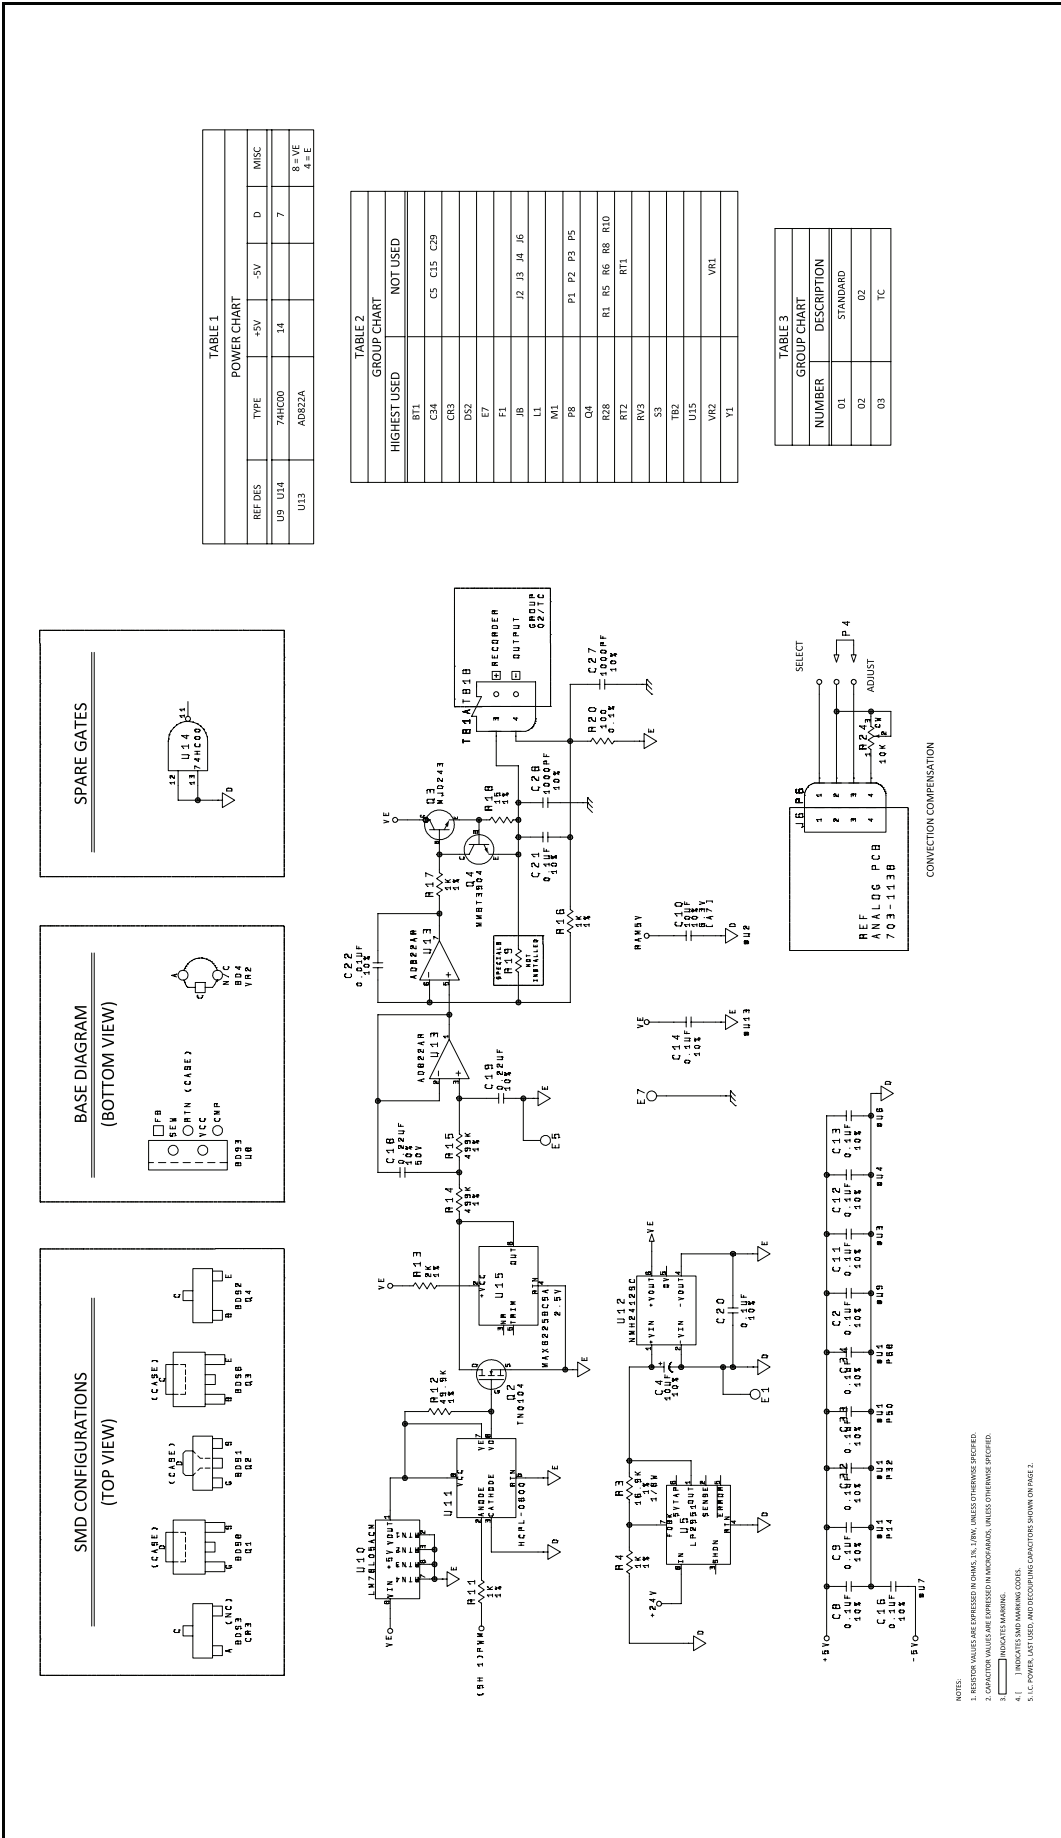

Figure 66: Digital PCB schematic (ref. 700-1316, Rev. H, SH2)
- *Figure 66: Digital PCB schematic (ref. 700-1316, Rev. H, SH2) on page 50*